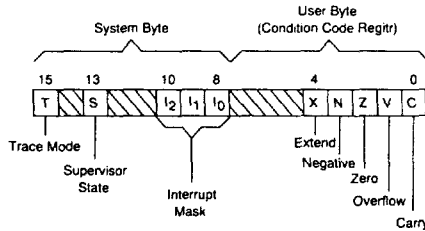

Figure 10 : Status register.
The status register (figure 10) contains the interrupt mask (eight levels available) as well as the condition code extend (X), negative (N), zero (Z), overflow (V), and carry (C). Additional status bits indicate that the processor is in a trace (T) mode and in a supervisor (S) or user state.